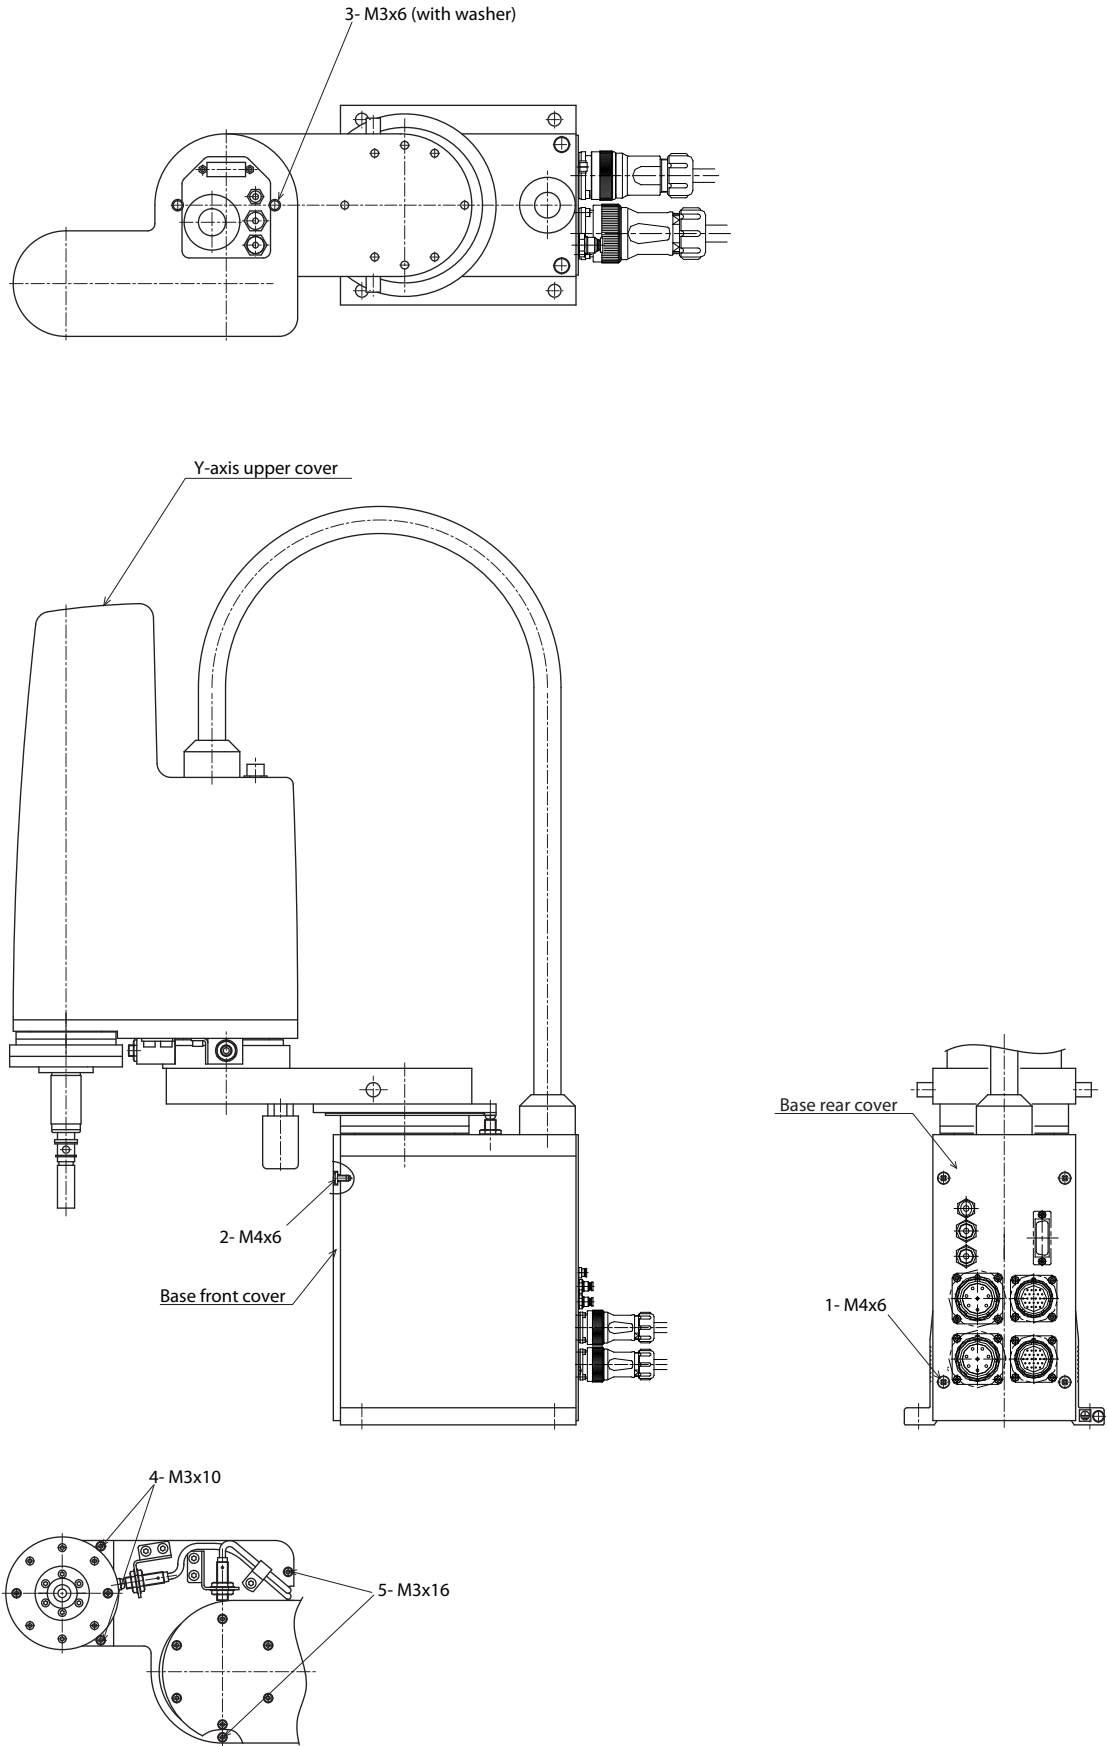
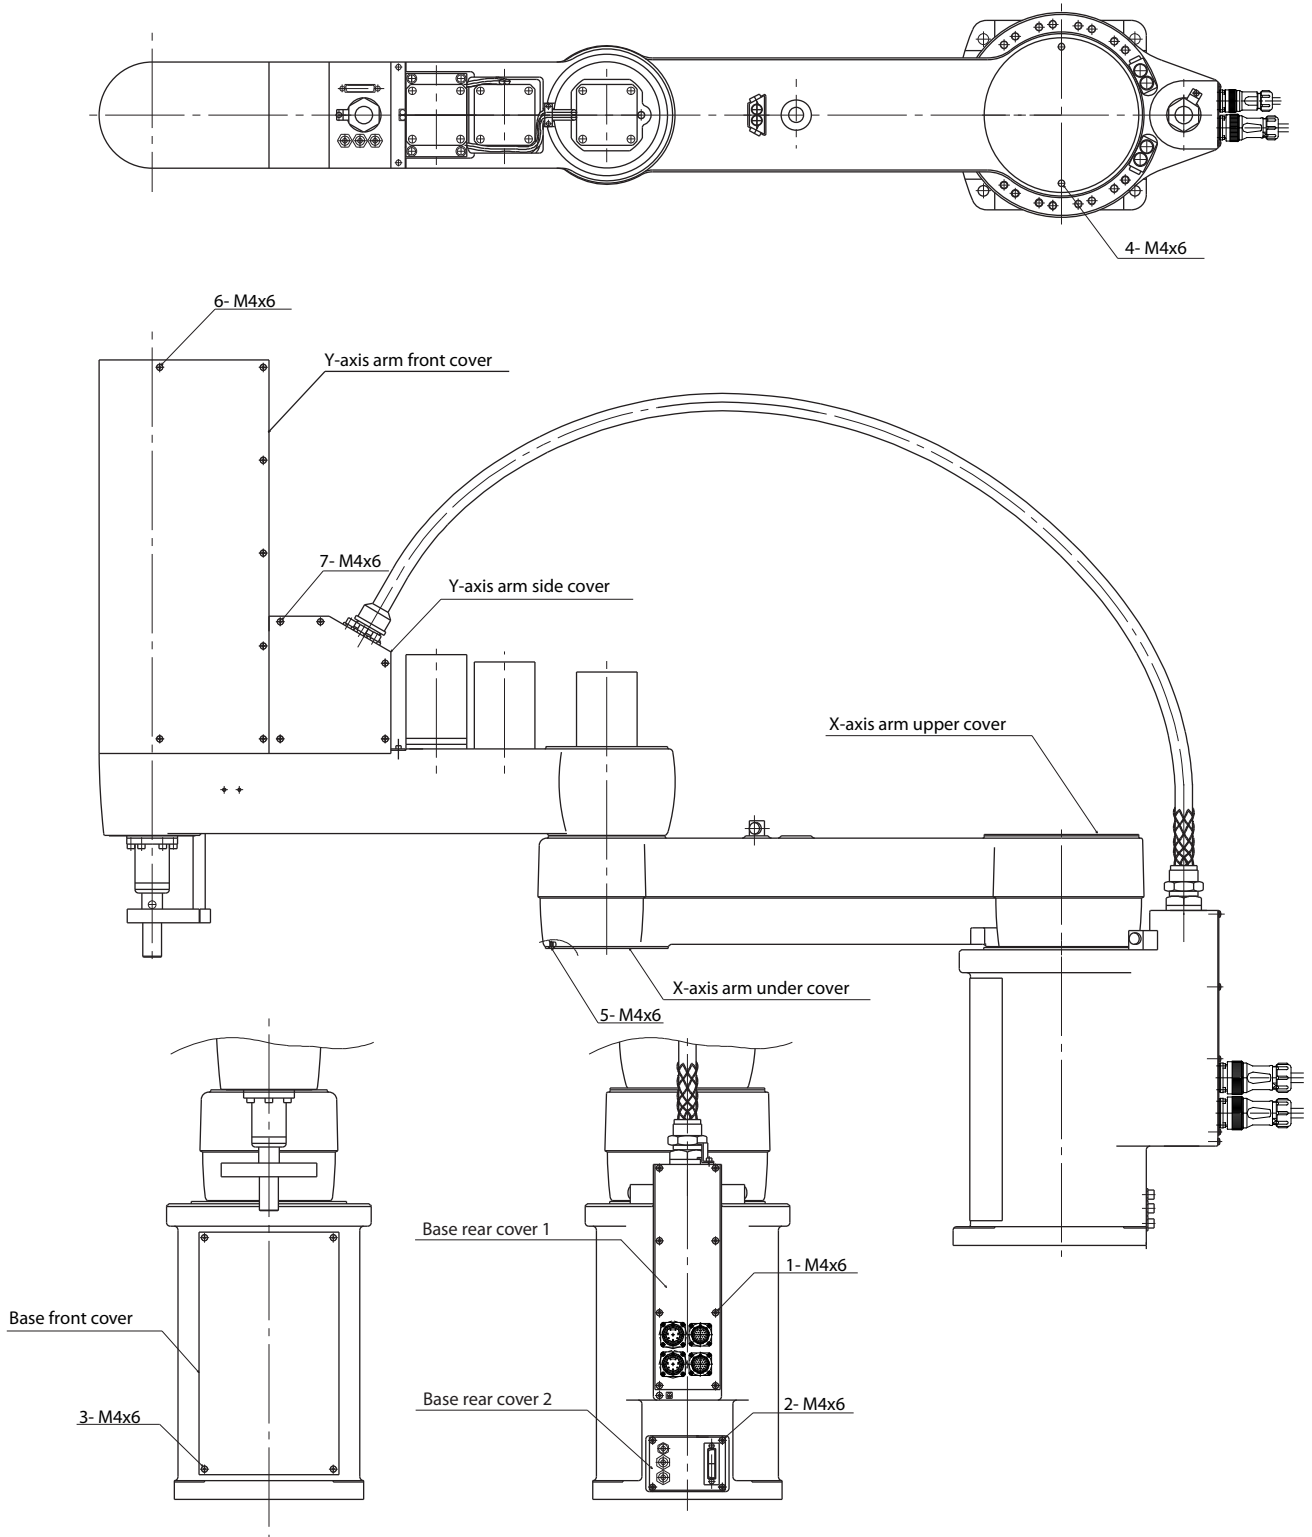

Fig. 4-14
Fig. 4-15
- 5) Remove the covers while referring to Fig. 4-14 to Fig. 4-15.
Table 4-4 R6YXH250, R6YXH350, R6YXH400 (See Fig. 4-14)
Table 4-5 R6YXX1200 (See Fig. 4-15)